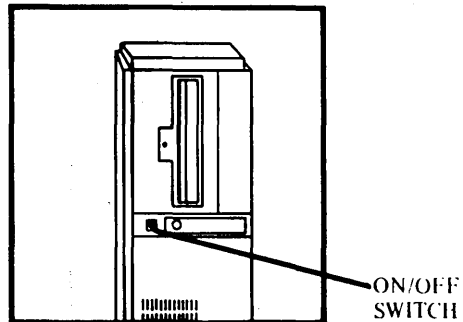

Figure C-3. On/Off Switches
- Figure C-3 describes how to turn the mass storage unit disk drive on and off.